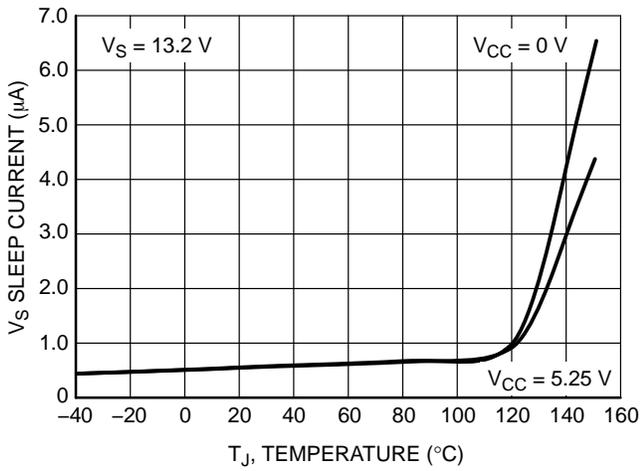

Figure 4. V_S Sleep Supply Current vs. Temperature
5. For temperatures above 85°C , refer to Figure 4.
5. For temperatures above 85°C, refer to Figure 4.